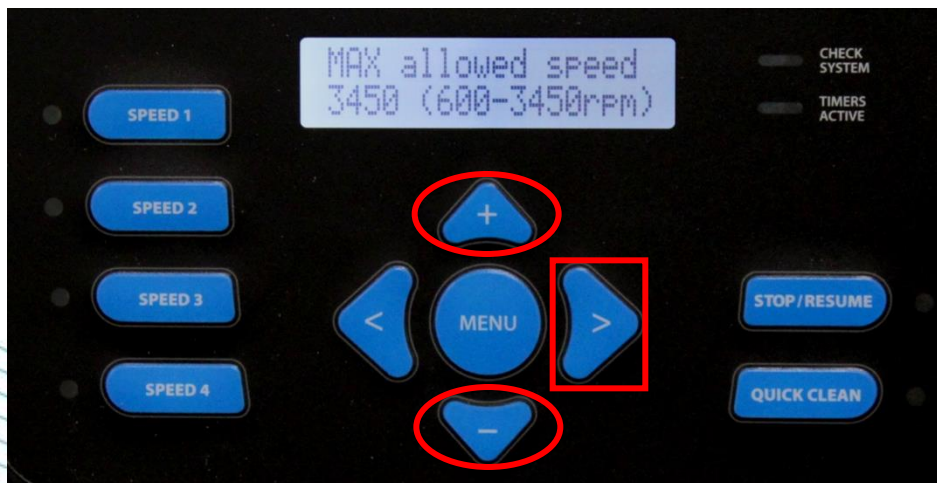

Figure 33
9. You will now see the MAX allowed speed. You can set this from 600-3450 RPM or 17 to 100% by pressing the  &  buttons (fig 33). See page 3 for the max allowed flow for pipe.